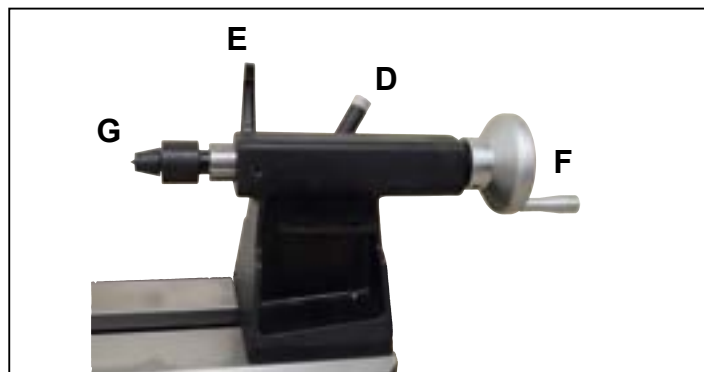

Fig.5.3
1. **TAILSTOCK LOCK HANDLE:** (FIG. 5.3, D) Locks the tailstock in position along the length of the lathe bed. Unlock the cam lever handle to position the tool rest to move the tailstock. Tighten handle when properly positioned. See page 12 for adjusting clamping pressure.
2. **TAILSTOCK QUILL LOCK HANDLE:** (E) Secures the tailstock quill in position. Unlock the handle to move the quill, with live center, forward or backwards. Tighten the locking handle when the quill is finally positioned.
3. **TAILSTOCK QUILL HANDWHEEL:** (F) The handwheel advances or retracts the quill 0 to 3-1/2". The tailstock quill lock handle (E) must be loose to move the quill.
4. **TAILSTOCK LIVE CENTER:** (G) Used for turning be-tween centers. The Live Center (#20C) and the Quill (#6C) have MT-2 tapers. Remove the live center by retracting the quill until the center loosens, or use the knockout bar.